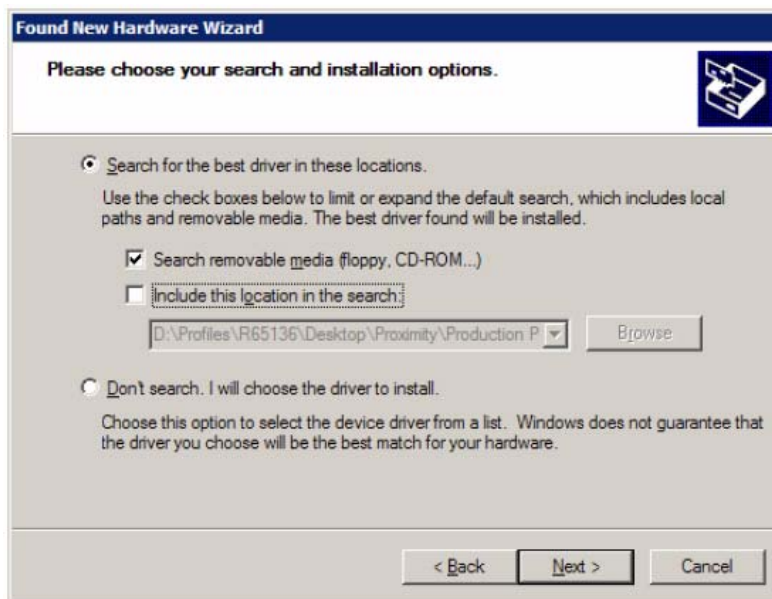

Figure 9. Found New Hardware Wizard Screen 2
2. Select the radio button: “Search for the best driver in these locations.” and check box “Search removable media (floppy, CD-ROM...)”. Then select “Next” button (Figure 9).